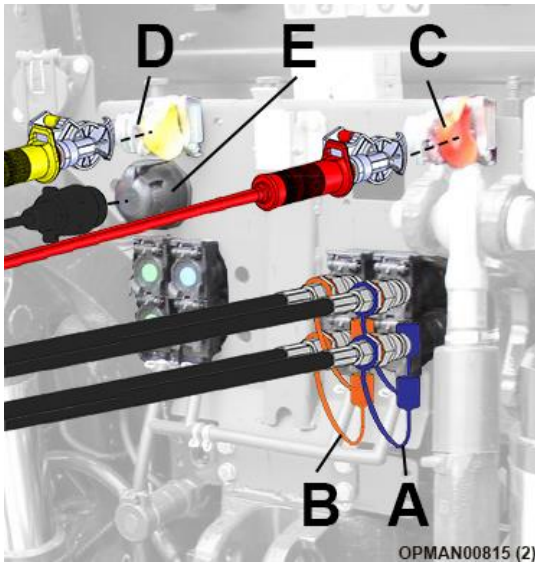

Figure 4.3
Ensuring that the quick couplers are clean; proceed to fit the hydraulic hoses. On all Stubble Master machines for visual reference **blue hose cover caps relate to the wing lifting rams** and **orange hoses cover caps relate to the axle lift rams**. Under the preference of the operator and which service they wish to use on the tractor, with reference to Figure 4.3, fit the wing lift ram hose into one bank of services (A) on the tractor and the axle lift hoses (B) into another.
On Stubble Master 750 machines and Stubble Master 530 machines fitted with optional air brakes, fit the air brake 'suzzie' connectors to the tractor; see Figure 4.3 (C/D). Remove them from the holders mounted on the hose guide bracket and connect the same colour on the machine to the tractor. Ensure that the red 'Emergency'
connector is fitted first and removed last; see Figure 4.3 (C). Ensure that the air hoses are clean before connecting the tractor to the machine.
Fit and fully seat the 7-pin machine electrical plug into the tractor's socket; see Figure 4.3 (E).
With relation to Figure 4.3, there may be some variances in the layout of all of these items depending on the tractor manufacturer. Figure 4.3 is for visual reference only. Ensure that the operator fully understands the operations of the tractor before proceeding to use the machine by fully reading the tractor manufacturer's operator manual.